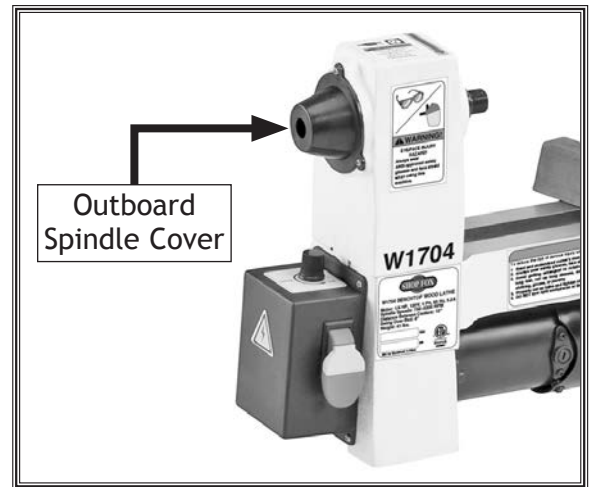

Figure 37. Location of outboard spindle cover.
4. Remove outboard spindle cover (see **Figure 37**) by removing (3) M4-.7 x 8 Phillips head screws.